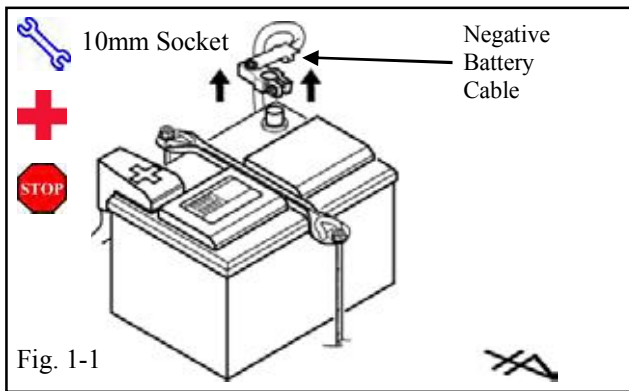

Fig. 1-1
- (b) Remove the Negative Battery Cable. (Fig. 1-1)